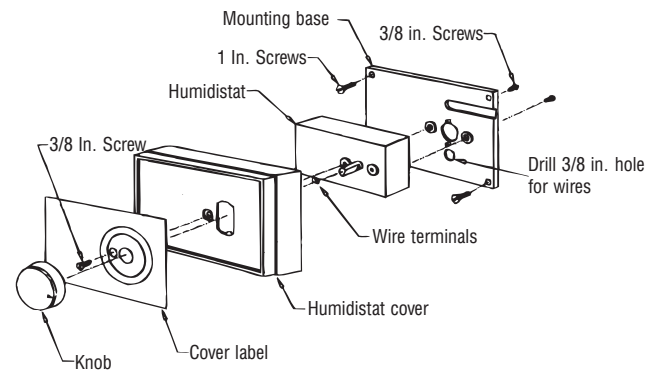

Figure 2: Wall Mounting Diagram
- 2 **For conversion to a wall mount configuration, simply pull the indicator knob off and remove the mounting screws, and rotate the control 180° and reattach the mounting base Fig 2.**